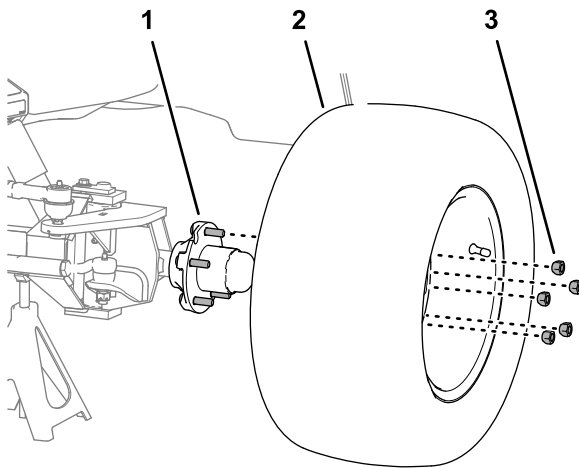

Figure 6
2. Remove the 5 wheel nuts that secure the left tire and wheel to the wheel hub, and remove the wheel from the machine (Figure 6).